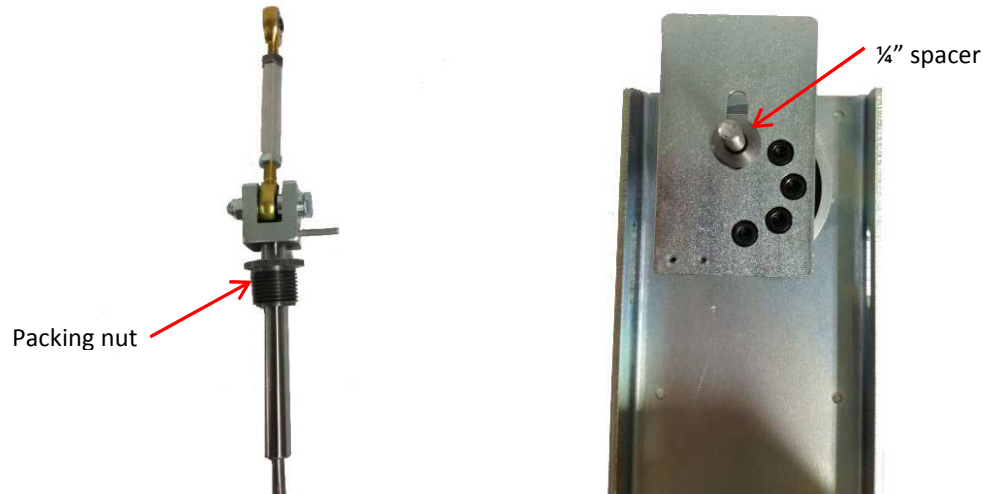

Figure 5: Placement of Packing Nut and $\frac{1}{4}$ " Spacer
- Slide the packing nut over the valve stem. Place the $\frac{1}{4}$ " spacer over the threaded rod protruding from the bracket assembly. The bracket and stem assemblies should then look like Figure 5 below.